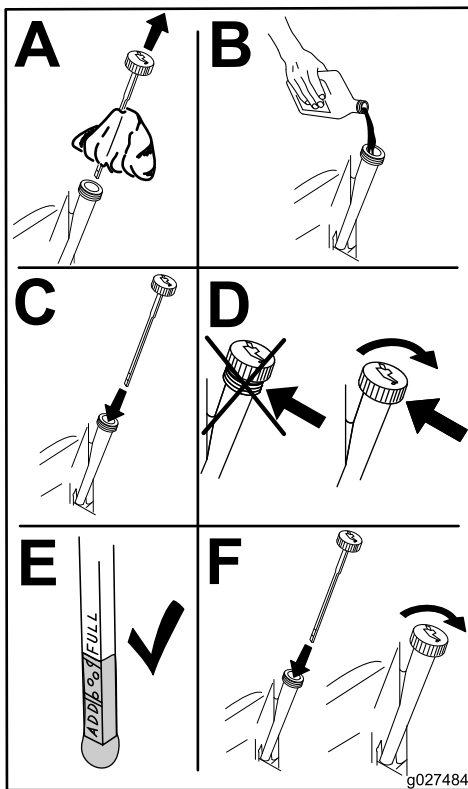

Figure 37
6. Slowly pour approximately 80% of the specified amount of oil into the fill hole (Figure 37).
7. Check the oil level (Figure 37).